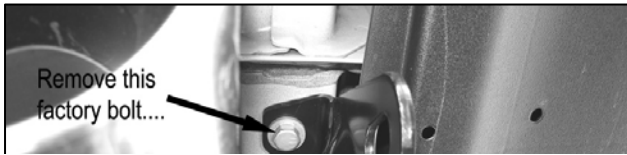

Fig 1
3. Locate tie down bracket on each of the frame rails. Remove the outside (rear) bolt and loosen up the inside (front) bolt just enough to remove the tie down brackets (**Figure 1**). **NOTE:** You do not need to remove the inside bolt. You will not be re-installing tie downs back onto the vehicle.